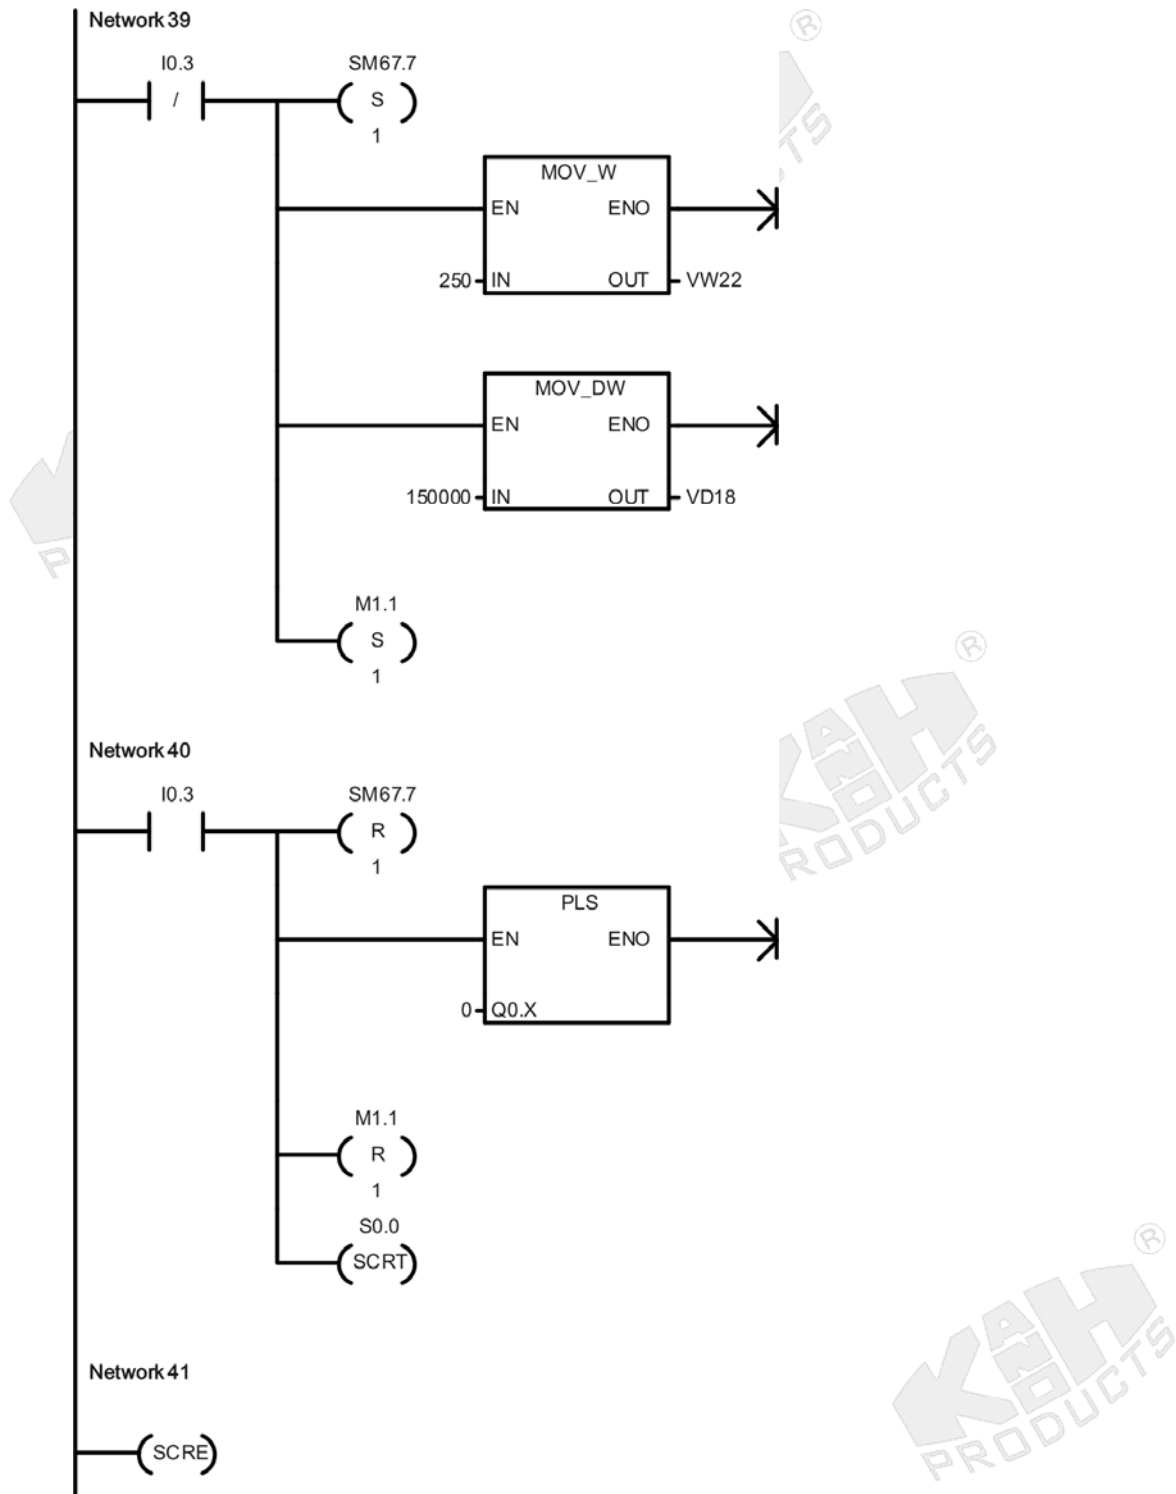

Fig. 11-10 Ladder diagram
6. Create a new project by selecting **File >> New** menu command. Complete the Ladder Program shown in Fig. 11-10.